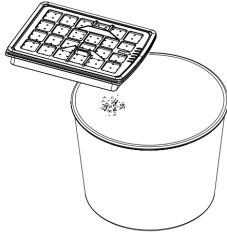

Fig.18
- 5) As in fig.18, If you have any hair winding removable cleaning.